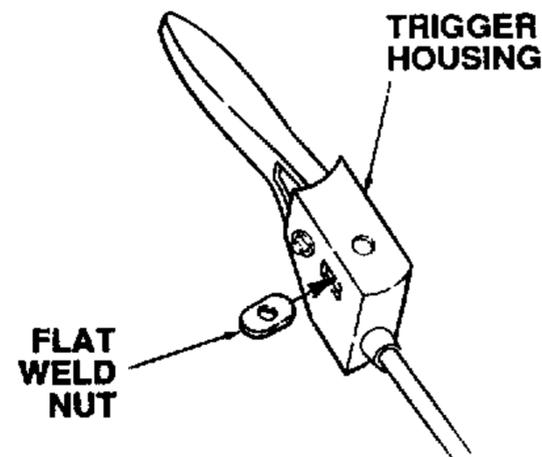

Figure 7-16. Inserting Flat Weld Nut.
5. Slide the flat weld nut (8, Fig. 7-9) into the trigger housing. See Figure 7-16.